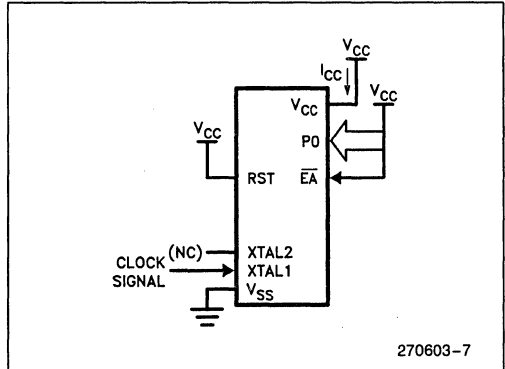

Figure 6. I_{CC} Test Condition, Active Mode
5. See Figures 6 through 9 for I_{CC} test conditions. Minimum V_{CC} for Power Down is 2V.